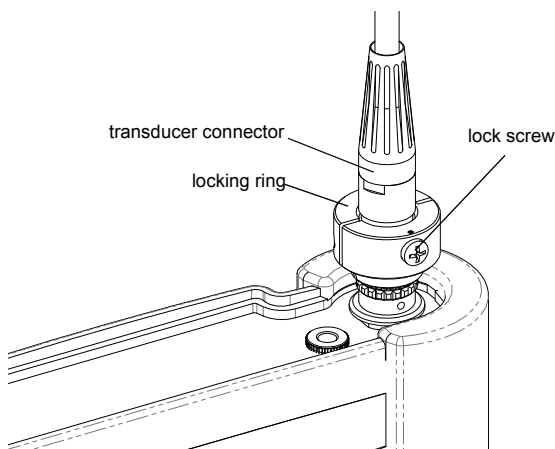

Fig. 7.10: Connection of the transducers (FLUXUS F608\*\*-F2)
- Secure the connector with of the lock ring by tightening the lock screw (see Fig. 7.10).